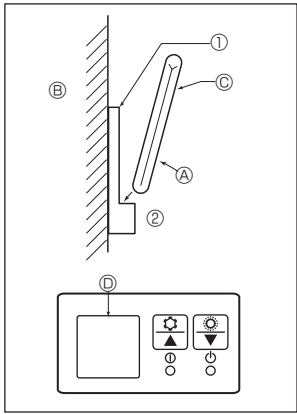
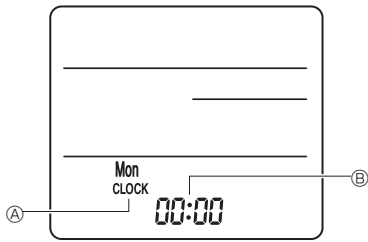

Fig. 6-4
Fig. 6-5
2) Installation method (Fig. 6-4)
① Attach the remote controller holder to the desired location using 2 tapping screws.
② Place the lower end of the controller into the holder.
③ Remote controller ④ Wall ⑤ Display panel ⑥ Receiver
3) Setting (Clock setting) (Fig. 6-5)
① Insert batteries or press the **CLOCK** button with something sharp.